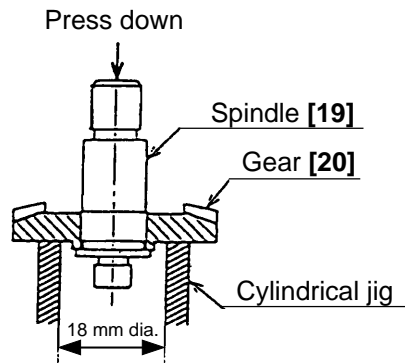

Fig. 5
- (e) Place the Gear [20] on a cylindrical jig and press down on the Spindle [19] to remove the Gear [20] from the Spindle [19] (See Fig. 5).